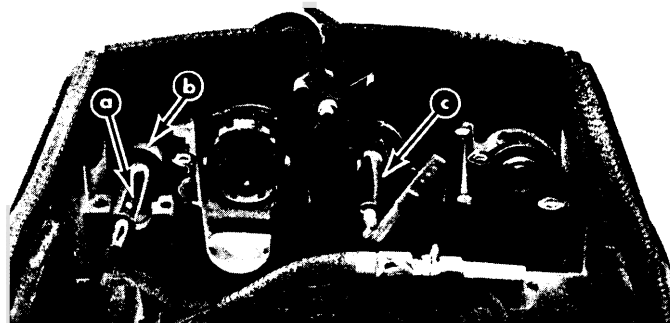

Figure 11. Choke Cable and Idle Mixture Linkage
- a. Insert partially assembled shaft thru hole from inside cowl. (Figure 11)